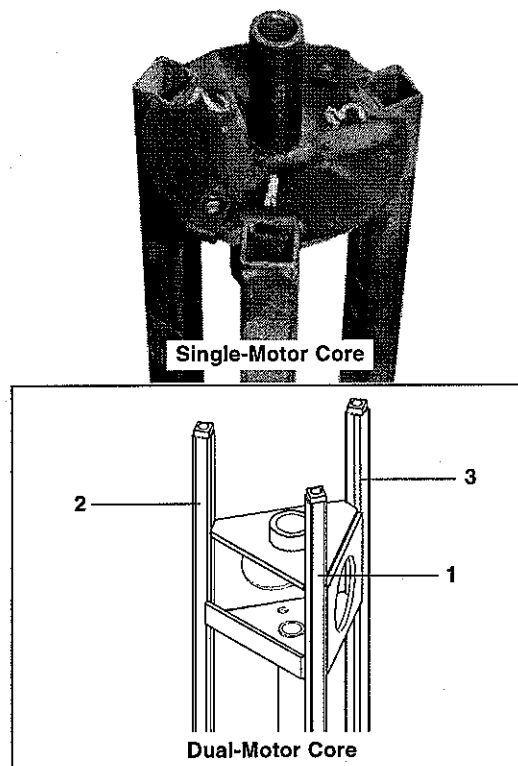

figure 14
- a. Number the tubes on the core as 1, 2 and 3 (figure 14).